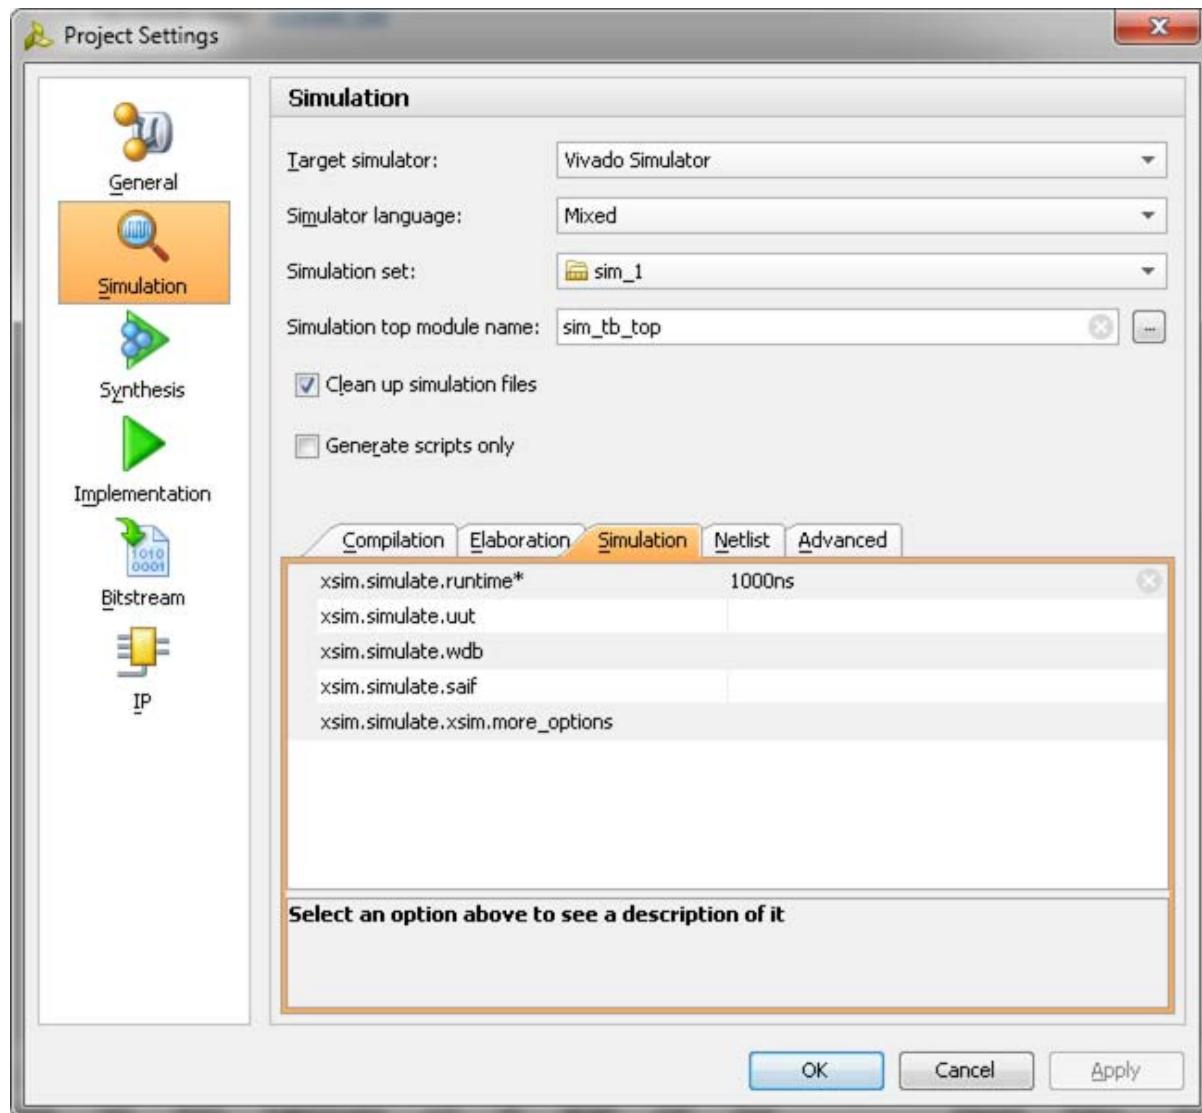

Figure 4-39: Simulation with Vivado Simulator
1. In the **Open IP Example Design** Vivado project, under **Flow Navigator**, select **Simulation Settings** (Figure 4-39).
2. Under the **Simulation** tab as shown in Figure 4-39, set the **xsim.simulate.runtime** as 1 ms (there are simulation RTL directives which stop the simulation after a certain period of time, which is less than 1 ms). Apply the settings and select **OK**.
- b. Under the **Simulation** tab, set the `modelsim.simulate.runtime` to 1 ms (there are simulation RTL directives which stop the simulation after certain period of time, which is less than 1 ms), set `modelsim.simulate.vsim.more_options` to `-novopt` as shown in Figure 4-39.